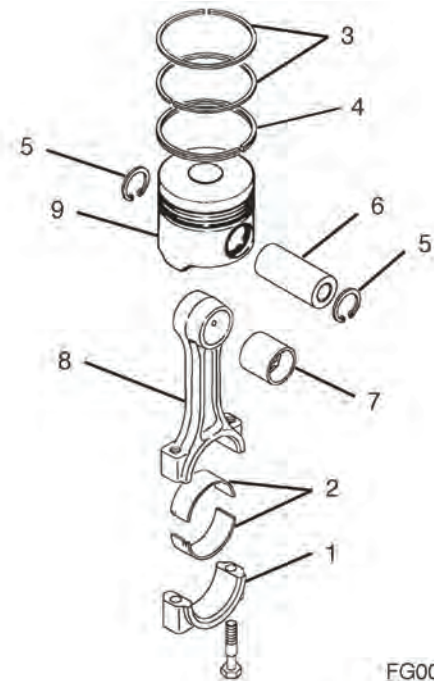

Figure 208
2. If removed, install a new wrist pin bushing (7, Figure 208) using a press and the appropriate service tool. Be sure to align the oil holes.
3. Reinstall one circlip (5, Figure 208) into the piston. Ensure the circlip is securely seated in the groove.
1. Lubricate and reinstall the wrist pin (3, Figure 208) through the piston and connecting rod.
2. Reinstall the second circlip (4, Figure 208) and ensure it is securely seated in the groove.